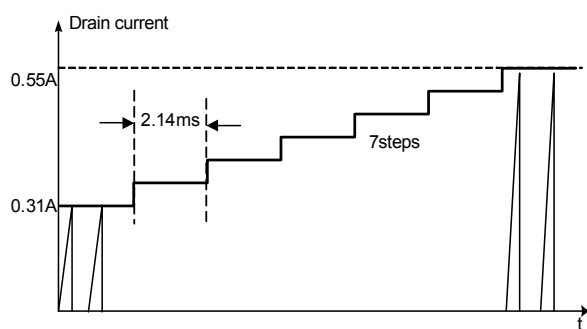

Figure 15. Internal Soft-Start
5. Soft-Start: The FPS has an internal soft-start circuit that slowly increases the feedback voltage together with the SenseFET current right after it starts up. The typical soft-start time is 15msec, as shown in Figure 15, where progressive increment of the SenseFET current is allowed during the start-up phase. Soft-start circuit progressively increases current limits to establish proper working conditions for transformers, inductors, capacitors and switching device. It also helps to prevent transformer saturation and reduces the stress on the secondary diode.